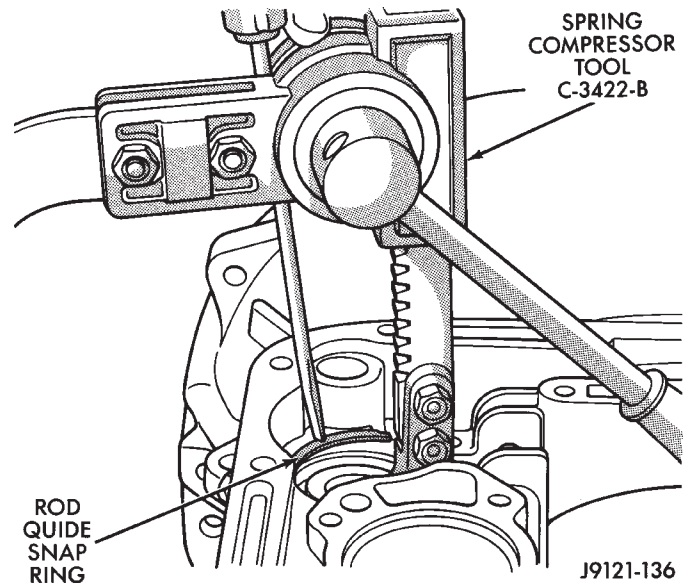
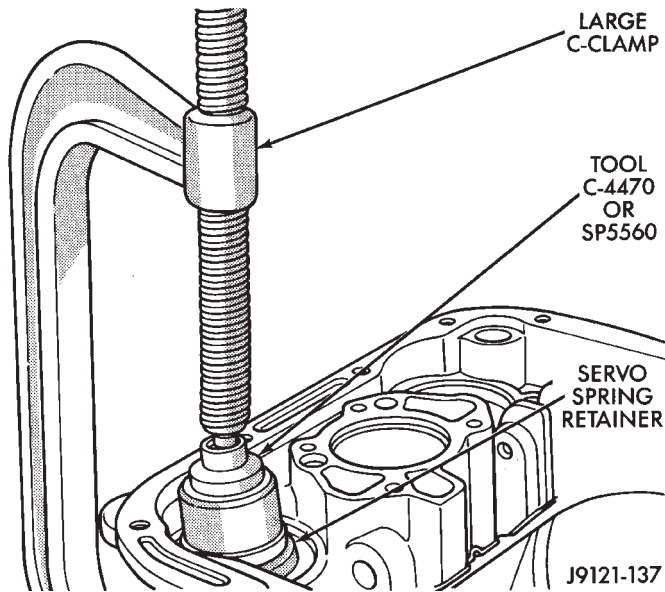

Fig. 94 Compressing Front Servo
Fig. 95 Compressing Rear Servo Spring
(34) Compress front servo rod guide about 1/8 in. with large C-clamp and Tool C-4470, or Spring Compressor Tool C-3422-B (Fig. 94).
(35) Remove front servo rod guide snap ring (Fig. 94). **Exercise caution when removing snap ring. Servo bore can be scratched or nicked if care is not exercised.**
(36) Remove compressor tools and remove front servo rod guide, spring and servo piston.
(37) Compress rear servo spring retainer about 1/16 in. with C-clamp and Tool C-4470 or SP-5560 (Fig. 95). Valve Spring Compressor C-3422-B can also be used to compress spring retainer.
(1) Install rear servo piston, spring and spring retainer. Compress rear servo spring and retainer with Compressor Tool C-3422-B (Fig. 95) or a large C-clamp.
(2) Install front servo piston, spring, and rod guide. Compress front servo rod guide with Valve
Spring Compressor C-3422-B and install servo snap ring (Fig. 94).